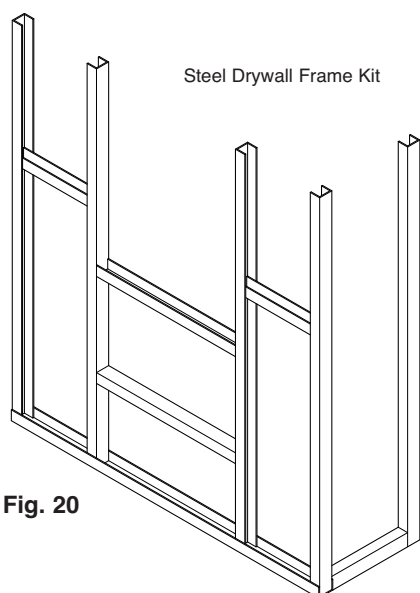

Fig. 20
1. Construct a false chimney breast using a suitable non-combustible steel frame construction kit (Fig. 20).
2. Ensure that there are two vertical steel battens placed to allow the flange of the fire box to be screwed to them (Fig. 20).
3. Fix a horizontal batten at the desired height for the fire box to sit on. Fix the second horizontal batten high enough so that the firebox can slide into the opening (Fig. 20).